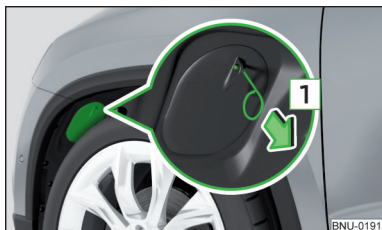

Fig. 350
- › Set the front wheels so that the respective cover is accessible » Fig. 350.
- › Insert and push the cover into the corresponding opening » Fig. 350. The cover must engage securely.